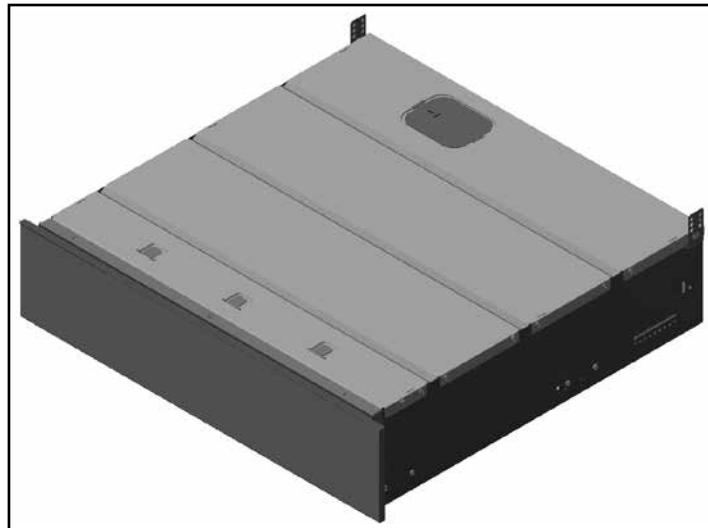

Fig. 1
- No. 1 packaging machine (Fig. 1).
2	Remove the oil filter plug (B) (Fig. 1).